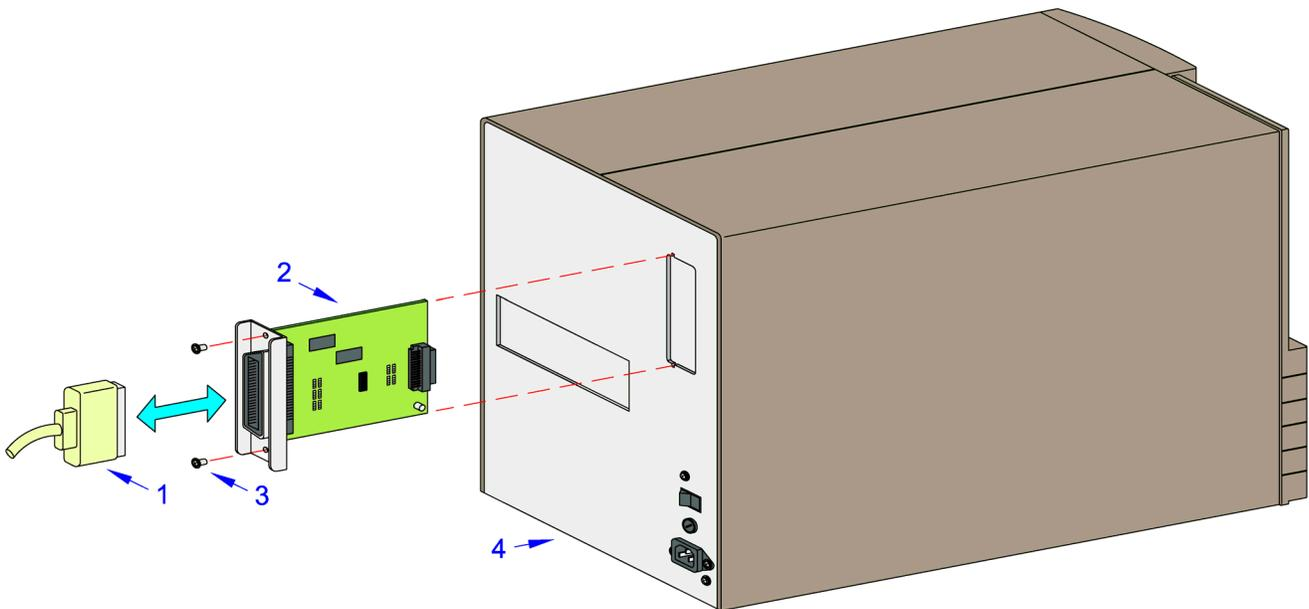

Figure 4-1, Interface Installation
2. Route interface cable (1, Figure 4-1) from host computer to interface board (2).
3. Insert interface board (2) into printer (4) and secure using two screws (3).
4. Connect interface cable (1).